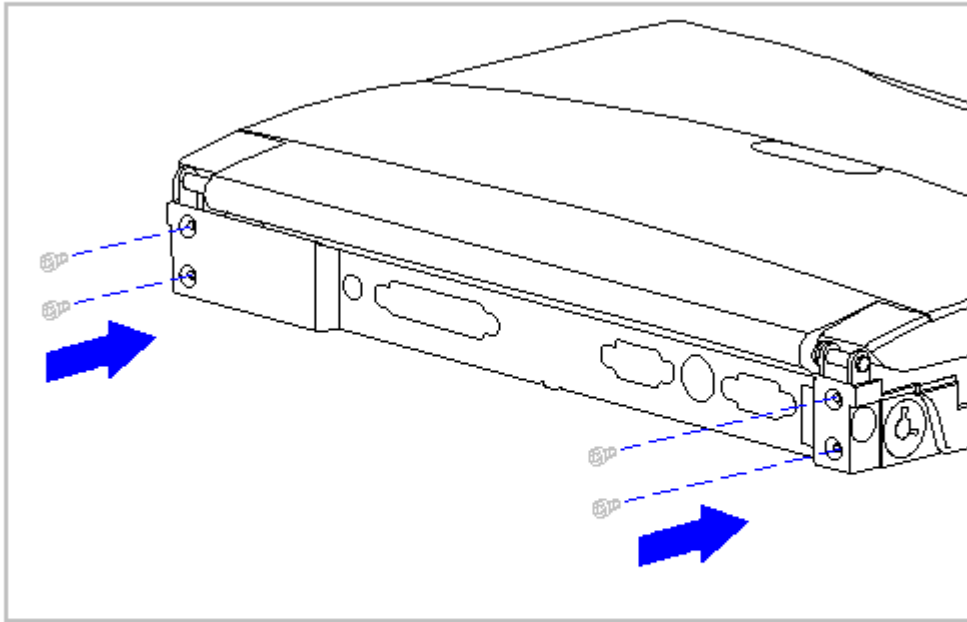

Figure 5-119. Replacing the Rear Clutch Screws
28. Replace the four rear clutch screws (Figure 5-119).